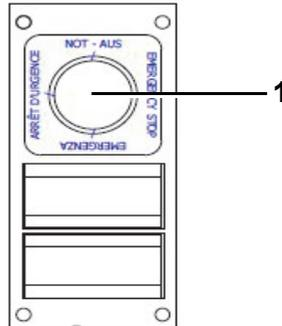

Fig. 57 Emergency stop switch
The emergency stop switch (1) in Fig. 57 is located on the bottom right control panel and immediately shuts down the machine when pressed.